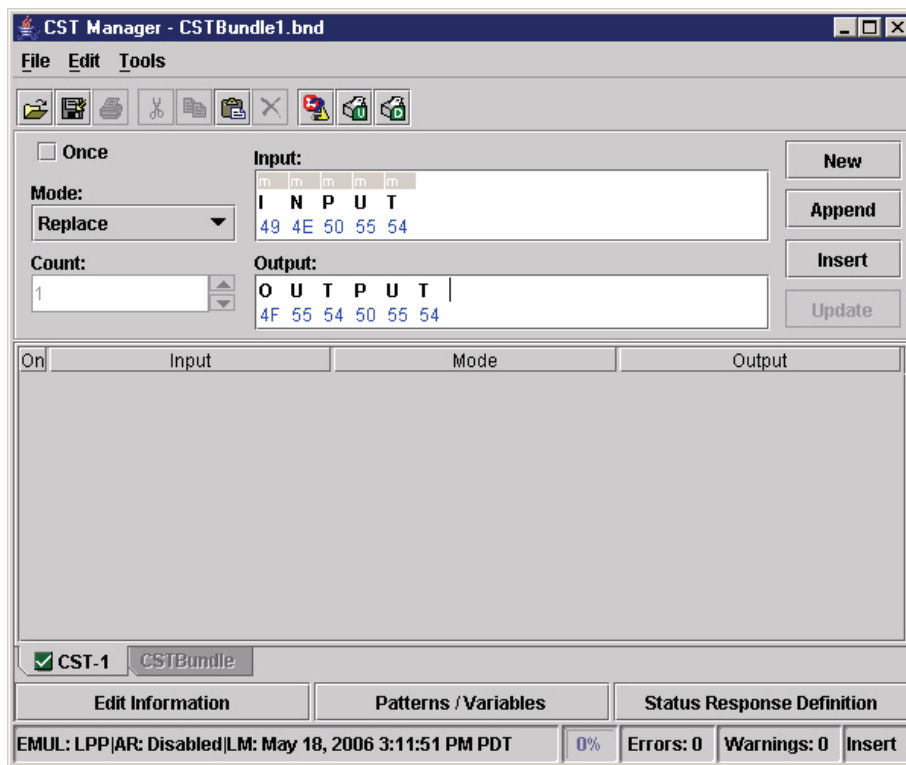

Figure 136 Creating a CST to Download Into a Printer
The datastream adapter is a software filter tool that allows you to take data from an incoming datastream and replace the data with different data, insert new data at any location in the datastream, or flush out portions of the datastream. This is accomplished through Character Substitution Tables (CSTs) created by the CST Manager (page 136). See Figure 136.
4. In the Output field, type **OUTPUT**. See Figure 136.